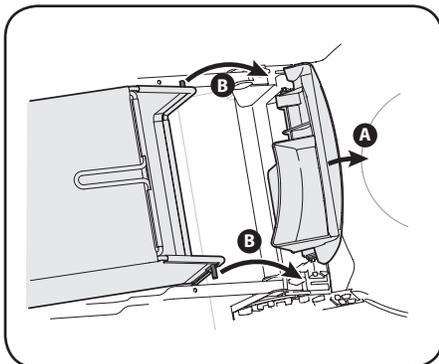

Figure 2-8
2. Follow steps below to attach grass catcher. See Figure 2-8.